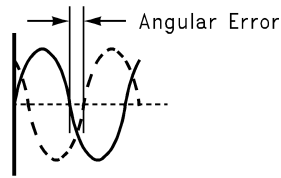

Figure 59. Angular Errors Between the Two Input Signals Will Reduce the Output Level or Cause Distortion
- dev is the angular difference in degrees between the two signals having a 180° relative phase relationship to each other (see Figure 59) (3)